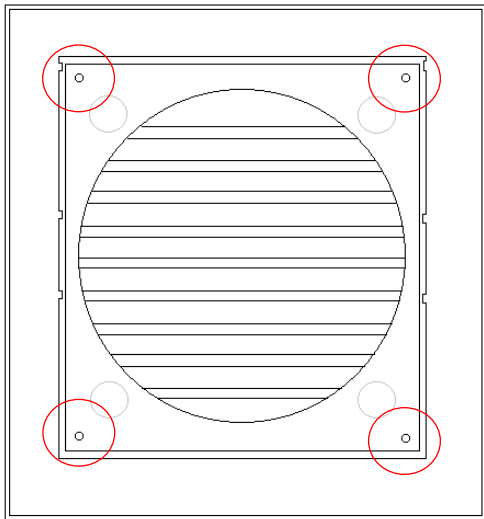

Fig.4
3. Remove the grille and fly screen from the back plate. The preformed holes for fixing the external grille to the brick will be located at each corner of the back plate. See Fig 4. Below.